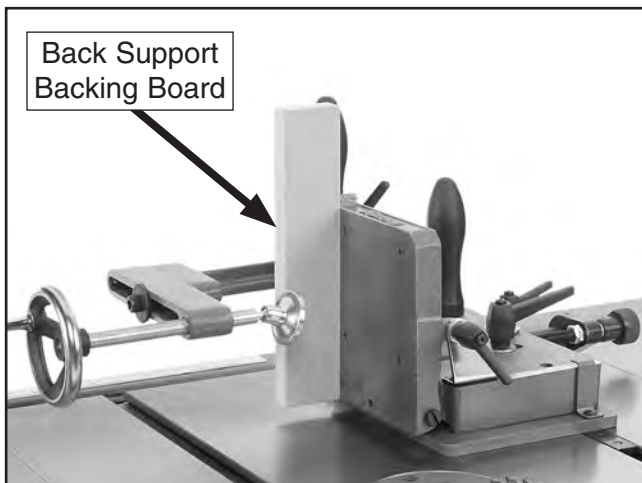

Figure 21. Back support backing board mounted.
4. Cut a piece of $\frac{3}{4}$ " plywood approximately 2" wide by 9" tall, then mount it on the back support using either wood screws through the back of the support or recessed cap screws and hex nuts through the front (see **Figure 21**).